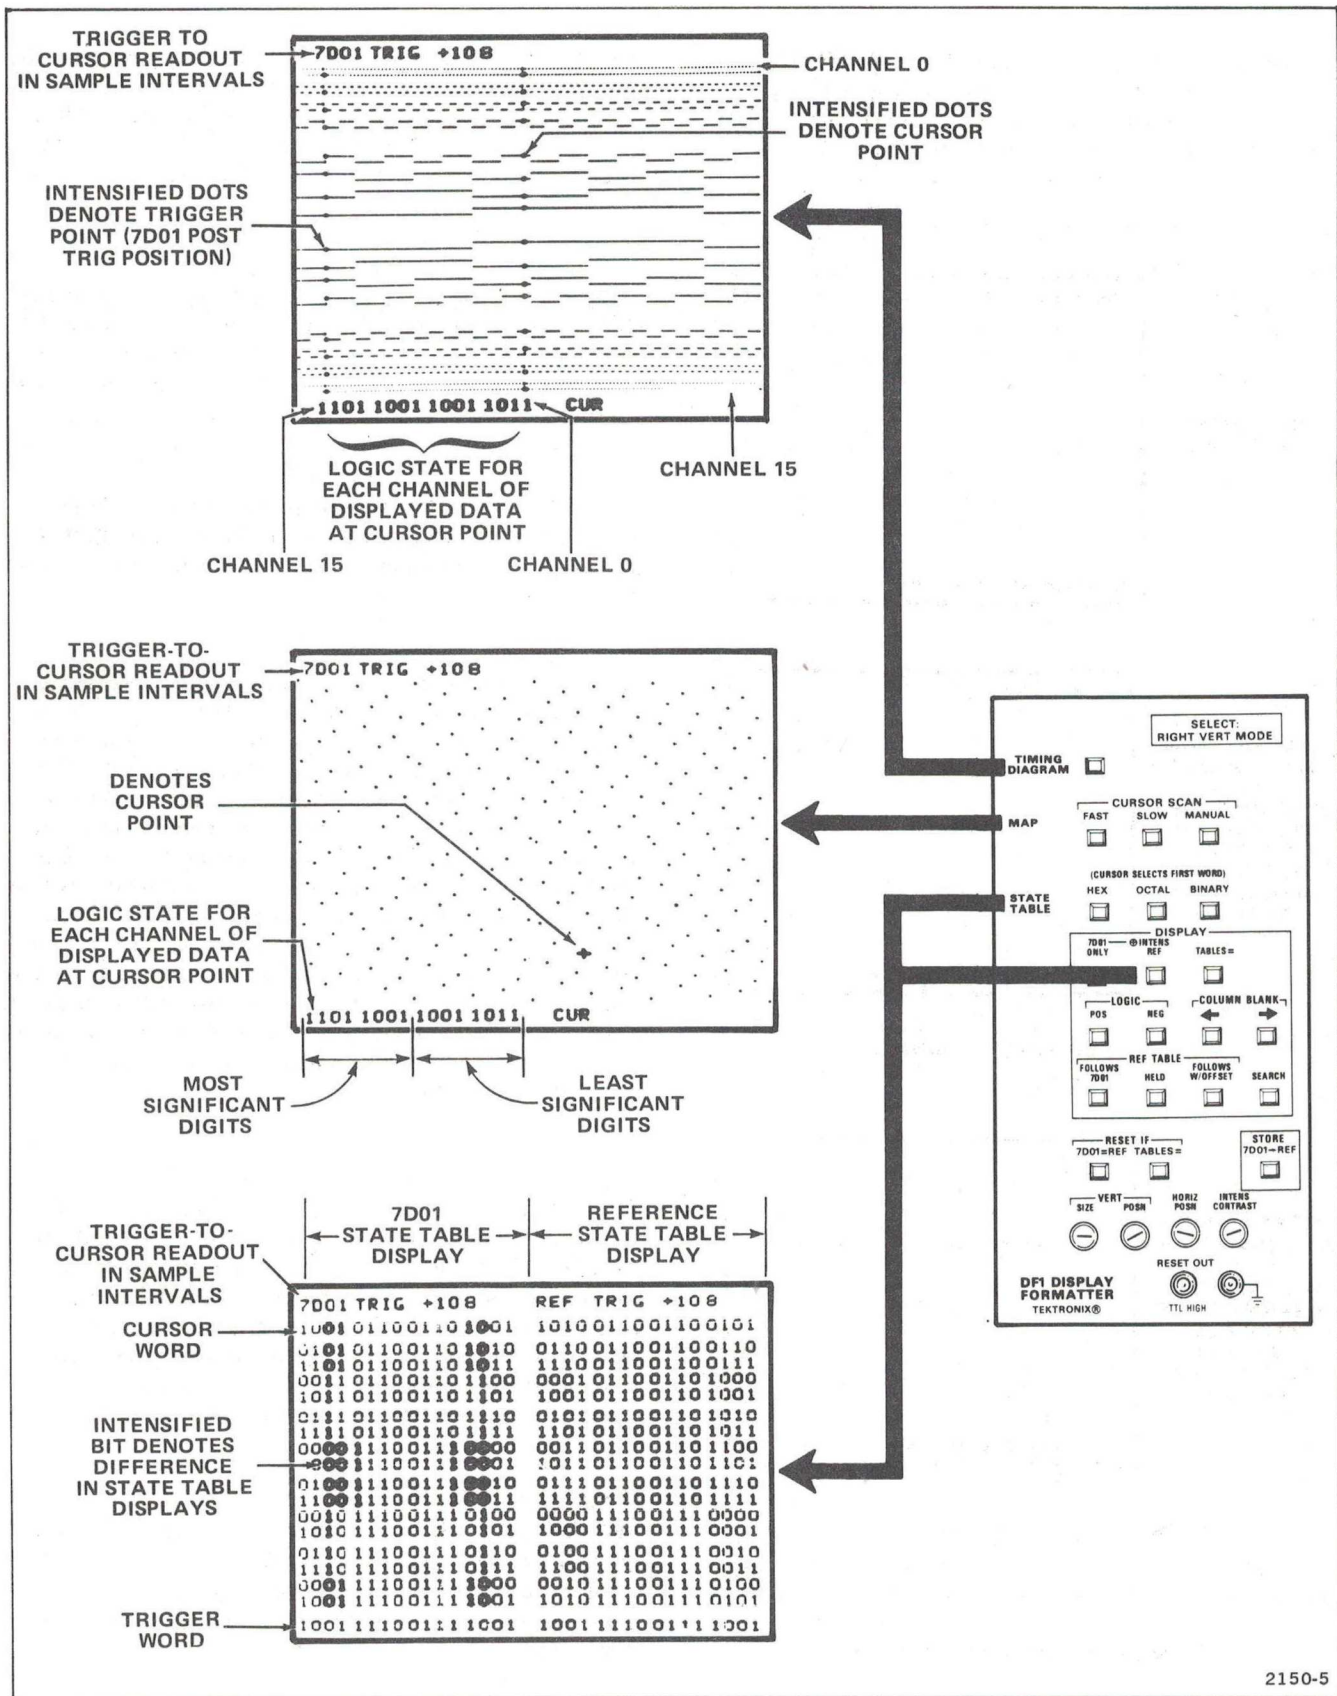

Figure 2-3. Typical DF1 Display Modes.
The DF1 displays digital data in 3 Display Modes: Timing Diagram, Map, and State Table. Figure 2-3 shows the controls required to activate typical DF1 displays.
The front-panel TIMING DIAGRAM push button selects the Timing Diagram display (4, 8, or 16 channels) from the companion 7D01 Logic Analyzer (see Fig. 2-3). The cursor function of the 7D01 provides an intensified zone on the data display and a corresponding numerical readout display shows the logic state for each displayed channel of data. The position of the cursor, relative to the trigger, is also displayed on the crt readout. Refer to the 7D01 manual for more information on the 7D01 Logic Analyzer.
The Map function provides a view of the 7D01 memory displayed as x-y coordinate dots on the crt. The vertical axis represents the most significant half of the data word and the horizontal axis represents the least significant half (see Figure 2-3).
displayed. If the trigger word is displayed in the first 17 words of the state table, it is indicated by a blinking condition. The position of the cursor, relative to the trigger, is also displayed on the crt readout (see Figure 2-3).
**7D01  $\oplus$  INTENS REF.** Two state tables are displayed simultaneously on the crt. The state table from the 7D01 is displayed on the left half of the crt and a reference state table is displayed on the right half of the crt (see Figure 2-3). When the 7D01  $\oplus$  INTENS REF is initially selected, the STORE 7D01  $\rightarrow$  REF push button must be pressed to load the reference memory. Any differences between the 7D01 and reference state tables are indicated by intensified bits at the appropriate location in the 7D01 state table. Any differences in the state tables due to old data, indeterminate data, end data, or blanked columns, is interpreted as "don't care" conditions and are not intensified in the 7D01 state table (refer to the Glossary in the General Information section). If there are no differences between state tables, the TABLES= indicator is illuminated.
2. Check crt display for a 16-channel timing diagram (refer to Fig. 2-3). It may be necessary to adjust the mainframe